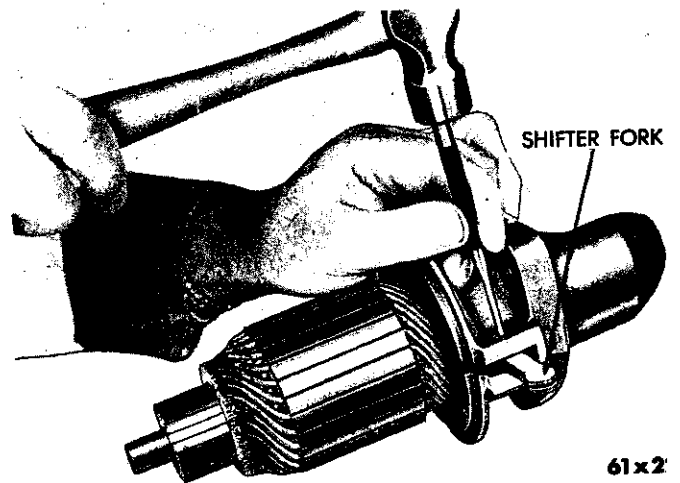

Fig. 5—Removing the Shifter Fork Pivot Pin
(7) Drive out the over-running clutch shift fork pivot pin (Fig. 5).
(8) Remove the drive end pinion housing and spacer washer.